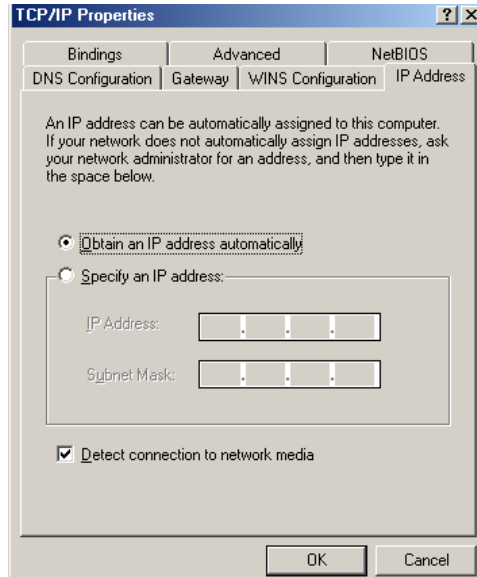

Figure 93: TCP/IP Properties
3. Select the TCP/IP entry associated with Network Interface Card (NIC) and then select Properties. The TCP/IP Properties window appears. See Figure 93.